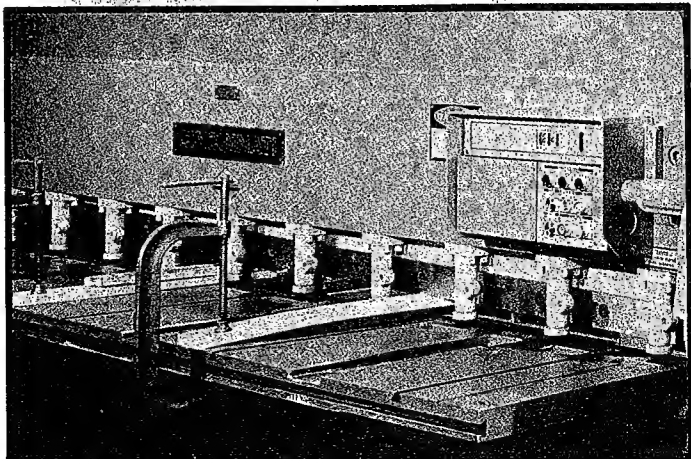

FIGURE 56
5. Place three 1" x 3" strips of wood "C"-clamped on the table, as shown in Figure 56, one on each end and one in the center of the table. These strips of wood must project under the upper knife.